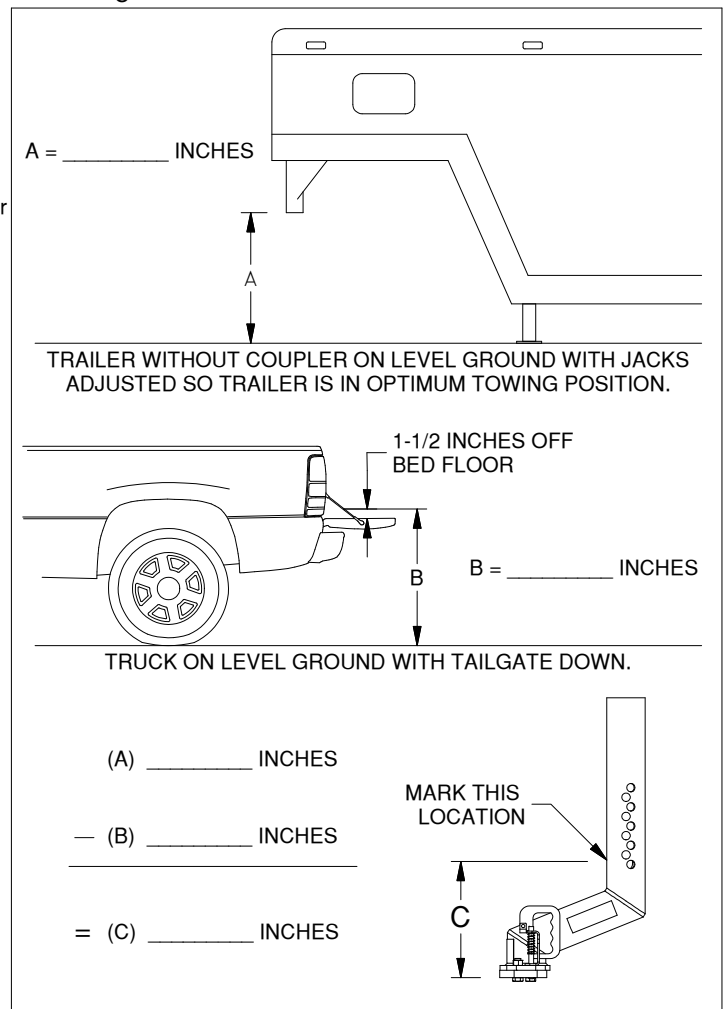

Figure A5: Coupler height determination.
2. **Mark the coupler.** With the trailer jacks adjusted so the trailer is in its optimum towing position, determine the distance between the bottom of the trailer sleeve and where the bottom of the coupler will be when coupled to the ball. See figure A5. Mark this position on the coupler.